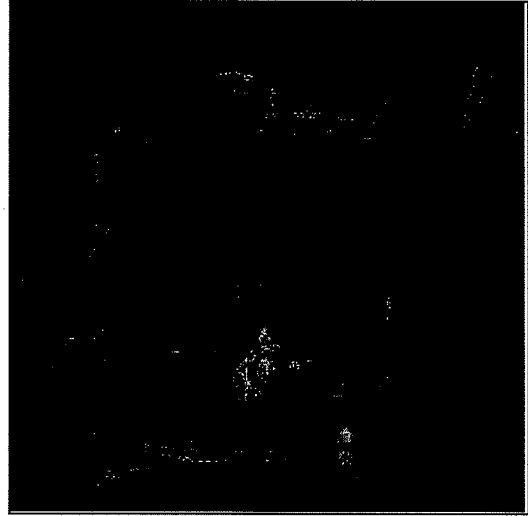

Figure 22
4. Join the connector from the batteries to the control panel cable connection (remote charger only). See figure 22.